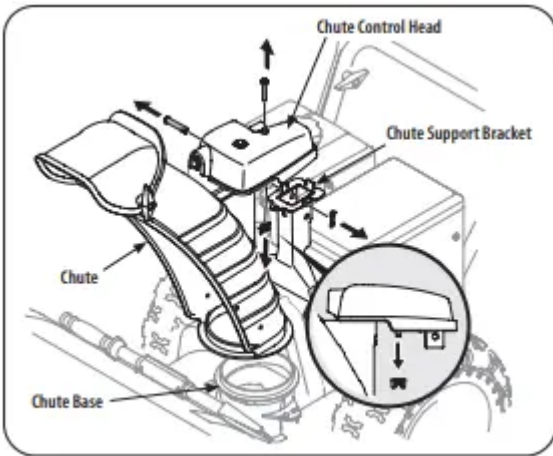

Figure 13
- Remove wing nut and hex screw from chute control head and clevis pin and cotter pin from chute support bracket. Position chute assembly (forwardfacing) over chute base. See Figure 13.